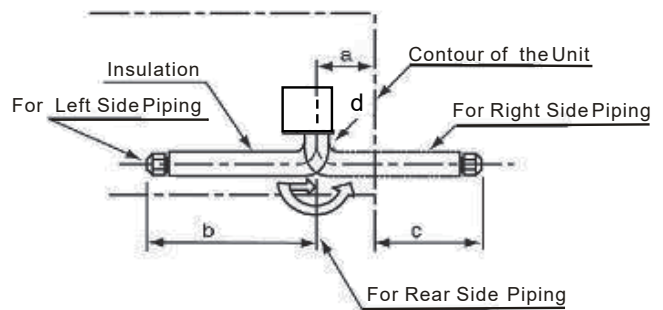

Fig. 5.1 Liquid pipe
(1) Position of piping connection is shown in Figure 5.1 and 5.2.
(2) Piping Direction for the Indoor Unit: Three directions of piping connection to the indoor unit can be performed; to the rear side, the right side and the left side of the unit respectively. Therefore, most appropriate piping for a room can be selected.